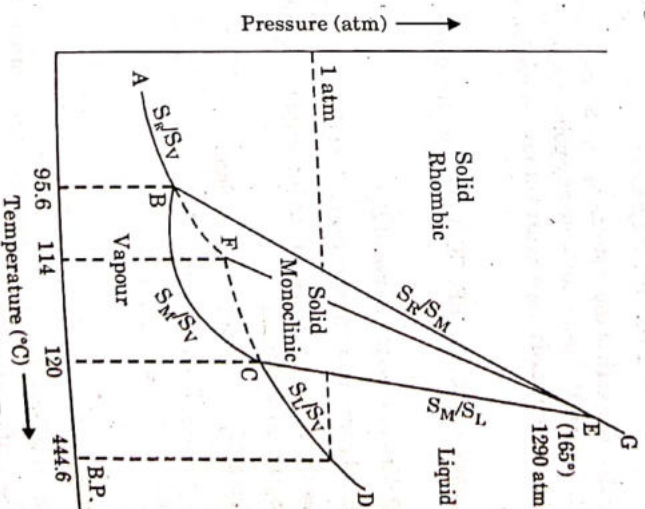

Fig. 4.26.1. Sulphur system
7. The number of phases at any instant depends upon the temperature-pressure conditions at that instant. The P-T diagram of sulphur system showing various equilibria is given in Fig. 4.26.1.